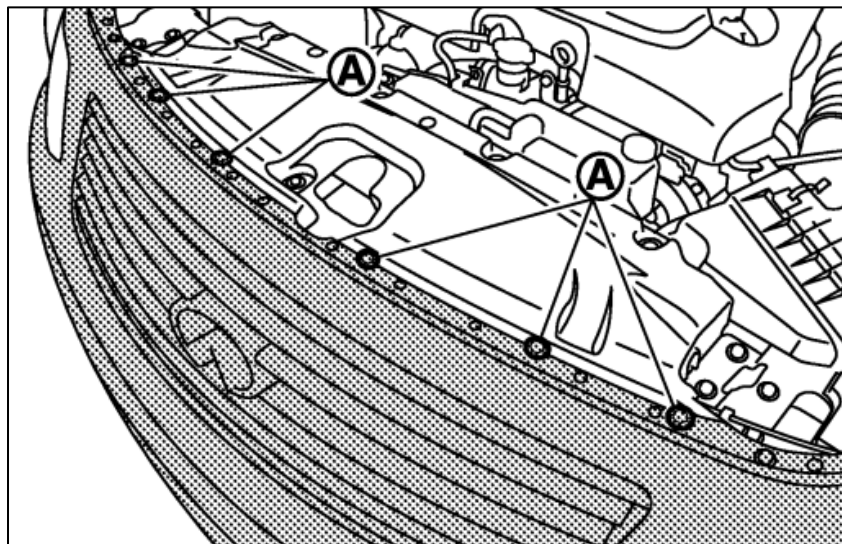

Figure 2
4. Remove the (6) six plastic clips securing the top of the Bumper Fascia to the vehicle and remove the Radiator Cover. *Figure 2.*